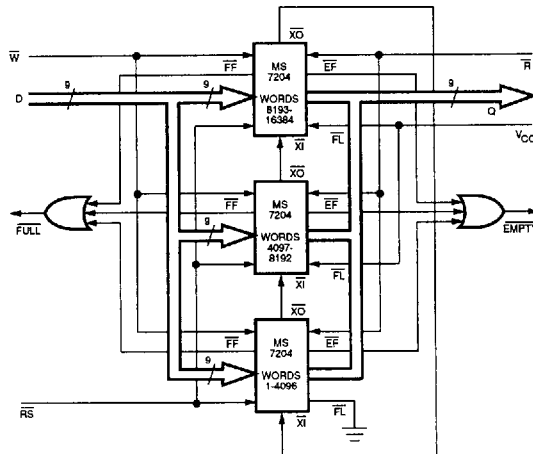

Figure 5. Diagram of a 16384 x 9 FIFO in Depth Expansion Mode
1. The FIRST LOAD (FL) control signal of the first device must be grounded. This FIFO represents word 1-4096.
2. All other devices in the Daisy Chain must have the FIRST LOAD (FL) control signal tied to V_{CC} in the inactive-high state.
3. The EXPANSION OUT (XO) pin of each device must be connected to the EXPANSION IN (XI) pin of the next device as shown in Figure 5.
4. External logic is required to generate a common FULL FLAG (FF) and EMPTY FLAG (EF) signal by ORING all of the FFs together and ORING all of the EFs together.
5. The RETRANSMIT (RT) function and HALF FULL FLAG (HF) are not available in Daisy Chain Mode.